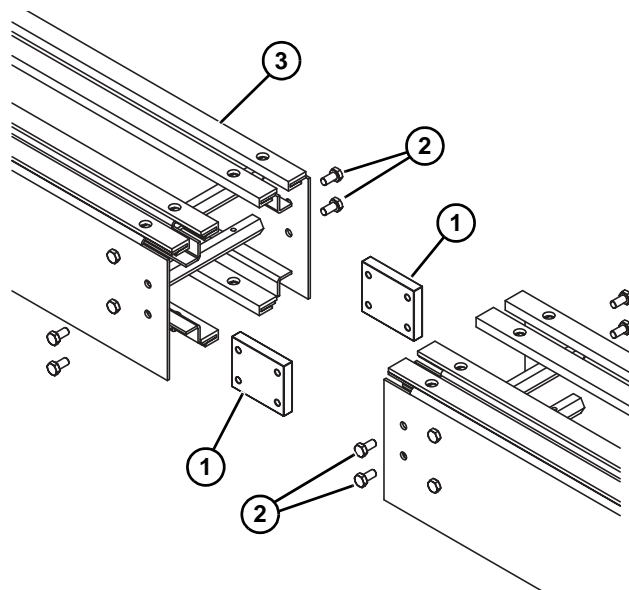

Figure 4
Typical Connecting Components (Figure 4).
2. Join both conveyor sections, and install connector plates (Figure 4, item 1), and secure with screws (Figure 4, item 2) on both sides.